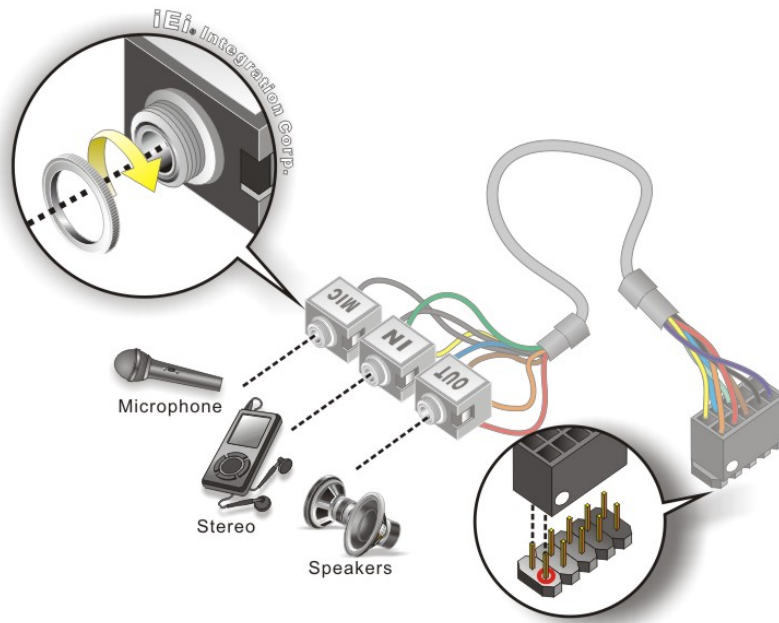

Figure 4-6: Audio Kit Cable Connection
**Step 2: Align pin 1.** Align pin 1 on the on-board connector with pin 1 on the audio kit connector. Pin 1 on the audio kit connector is indicated with a white dot. See **Figure 4-6**.